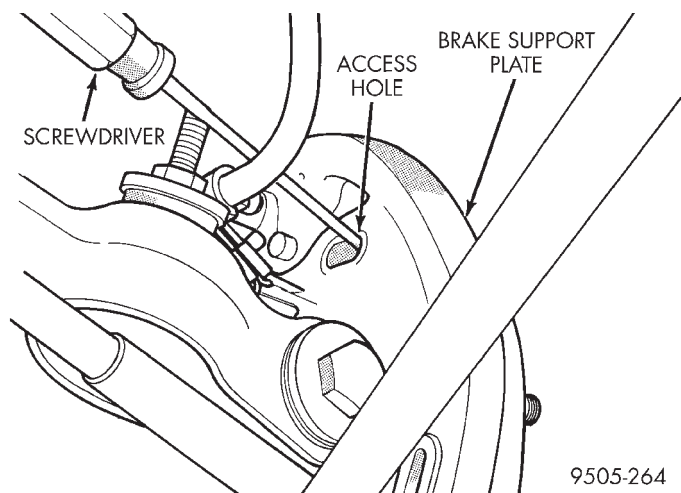

Fig. 61 Backing Off Rear Brake Shoe Adjustment
(4) Insert a screwdriver, through the automatic adjuster access hole, in the rear brake support plate (Fig. 61). Engage screwdriver with the teeth on the adjuster mechanism quadrant. Then rotate quadrant so that teeth on quadrant, are moved toward the front of the vehicle. Continue moving quadrant toward front of vehicle until it stops moving. This will fully back off the adjustment of the rear brake shoes allowing brake drum to be removed.